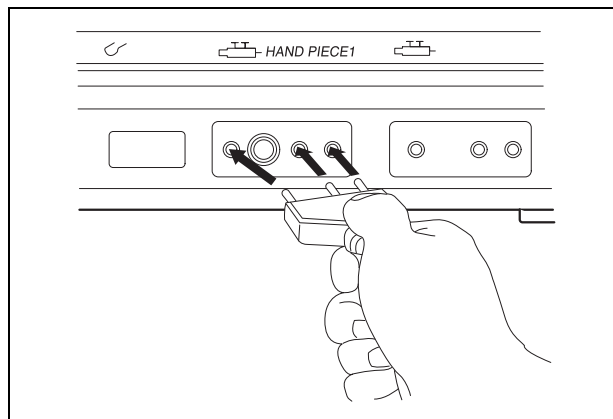

Figure 3.6
1. Confirm that the cable and plug of the reusable hand piece are free of scratches and cracks. Insert an electrode into the tip of the hand piece and tighten securely. Insert the hand piece plug firmly into the hand piece connector 1 or hand piece connector 2 on the front panel of the UES-40 (see Figure 3.6).
2. When using a disposable-hand piece, confirm that the cable and the plug are free of scratches and cracks. Insert the hand piece plug firmly into the hand piece connector 1 or hand piece connector 2 on the front panel of the UES-40 (see Figure 3.6).